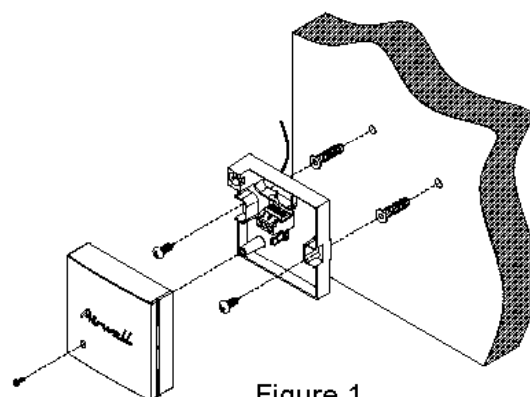

Figure 1
1. Install the thermostat box on the wall according the above location preferences. See figure 1.